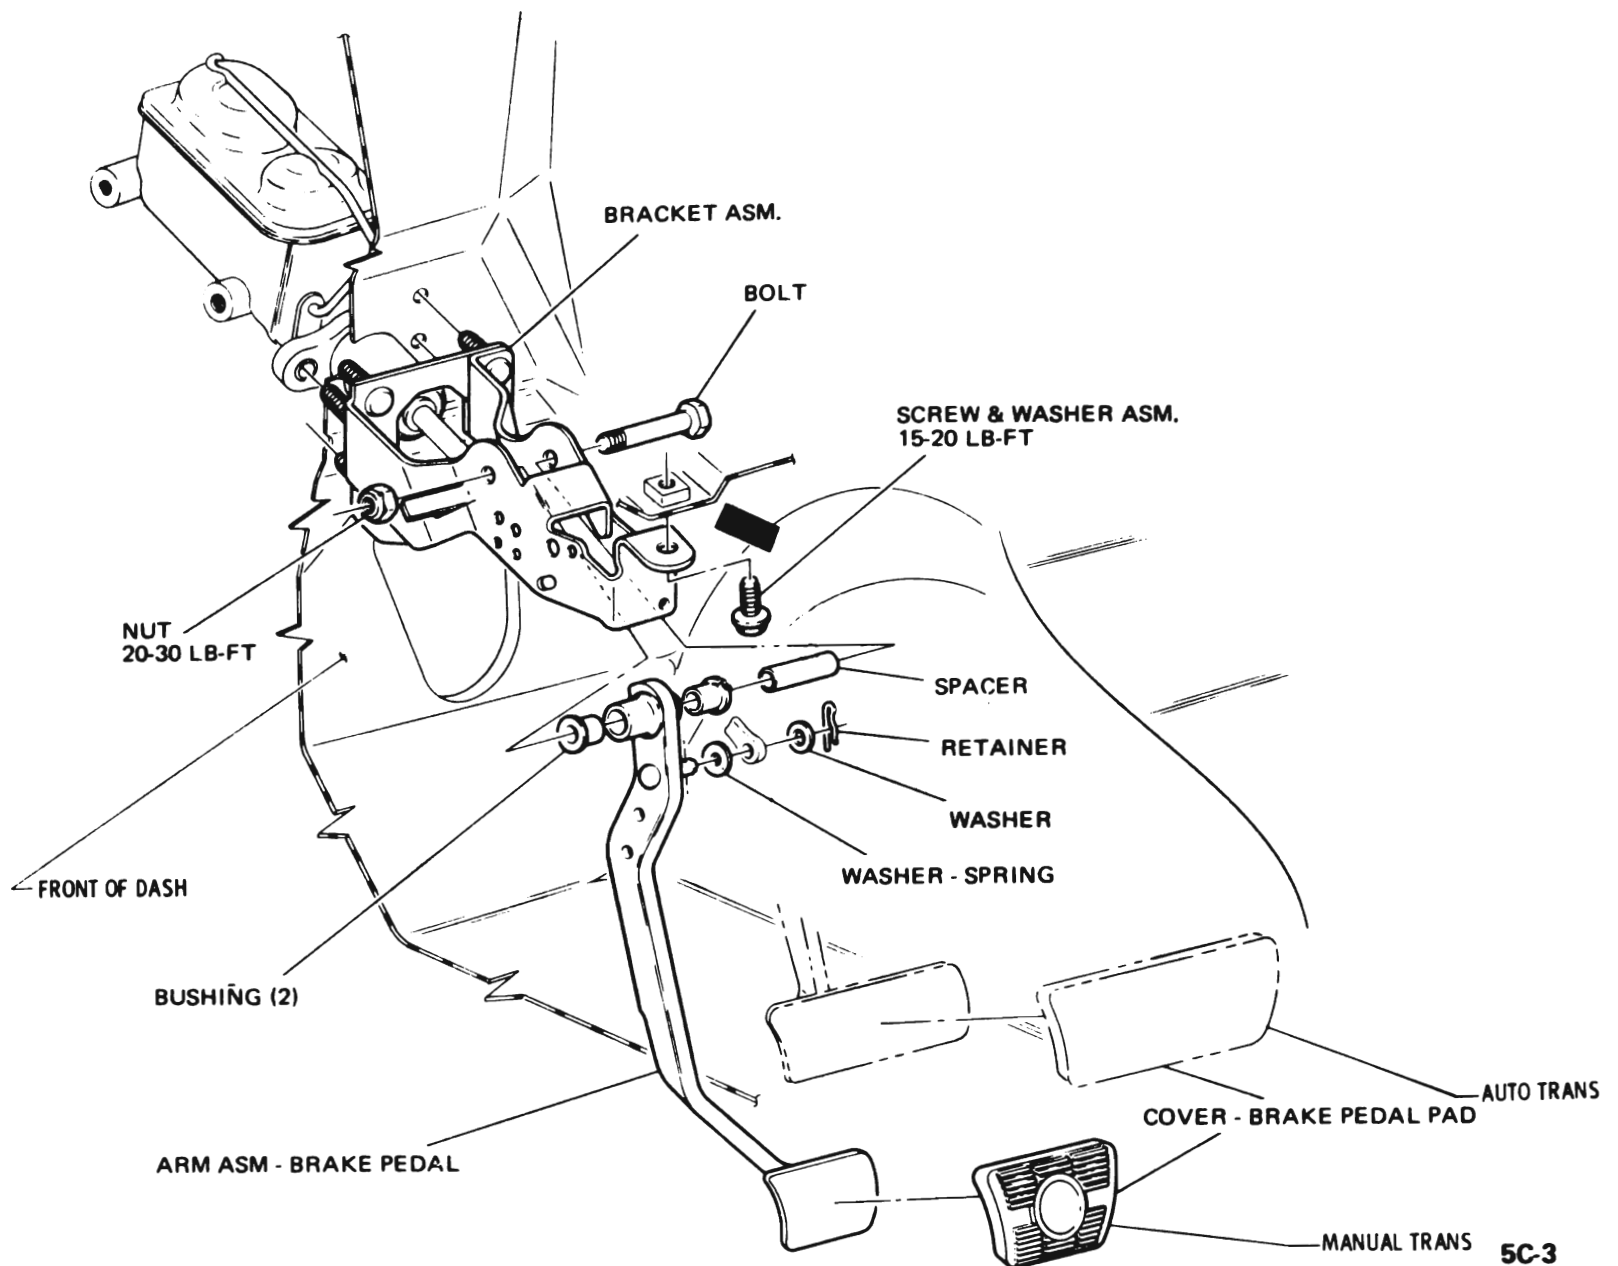

Figure 5C-3 Push Rod Retainer Clip
2. (Manual brake only) Disconnect brake pedal from master cylinder push rod by removing retainer clip and clevis pin. See Figure 5C-3.